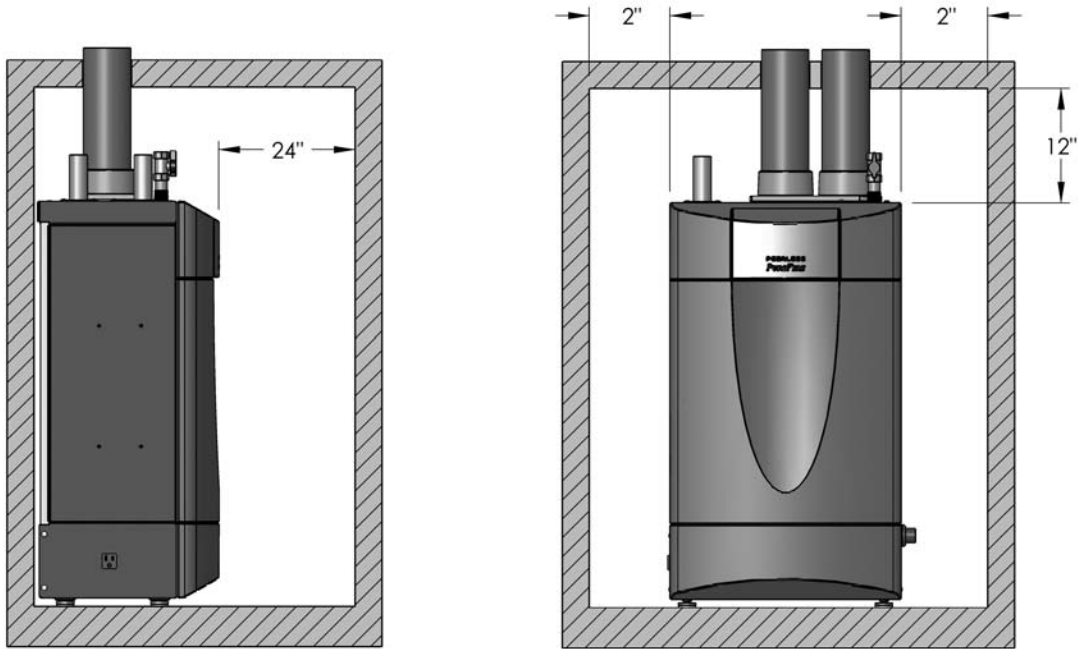
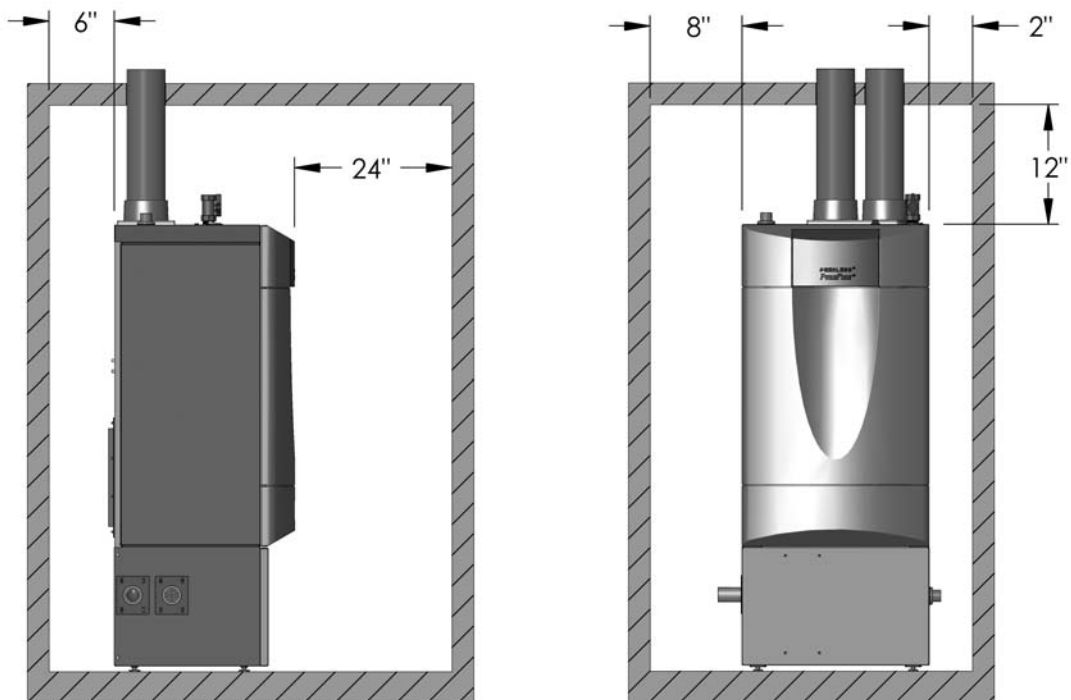

Figure 1.1: Minimum Accessibility Clearances – PF-50, PF-80, PF-110 & PF-140
Figure 1.2: Minimum Accessibility Clearances – PF-200, PF-210 & PF-399
2. Figure 1.1 shows the minimum recommended clearances to allow reasonable access to the boiler for Models PF-50, PF-80, PF-110 and PF-140. For Models PF-200, PF-210 and PF-399, Figure 1.2 shows the minimum recommended accessibility clearances. However, Local codes or special conditions may require greater clearances.